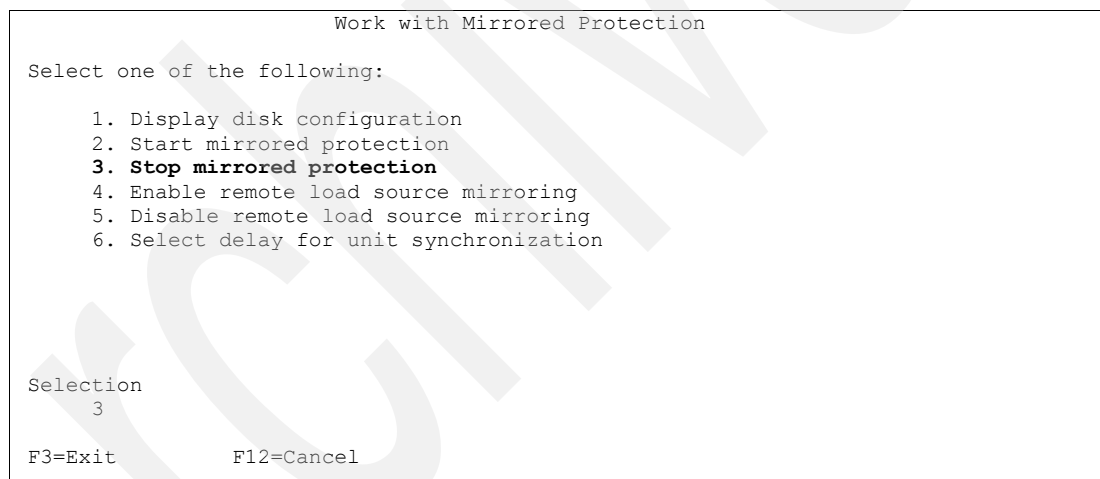

Figure 5-65 Stop mirrored protection
14. Select **3. Stop mirrored protection** as shown in Figure 5-65.